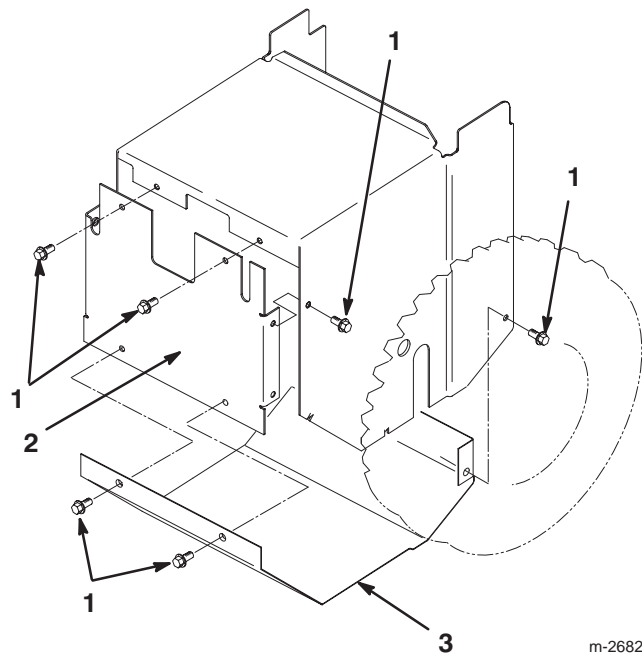

Figure 36
5. Remove the eight bolts that hold the back and the bottom covers in place and remove the covers (Fig. 36).